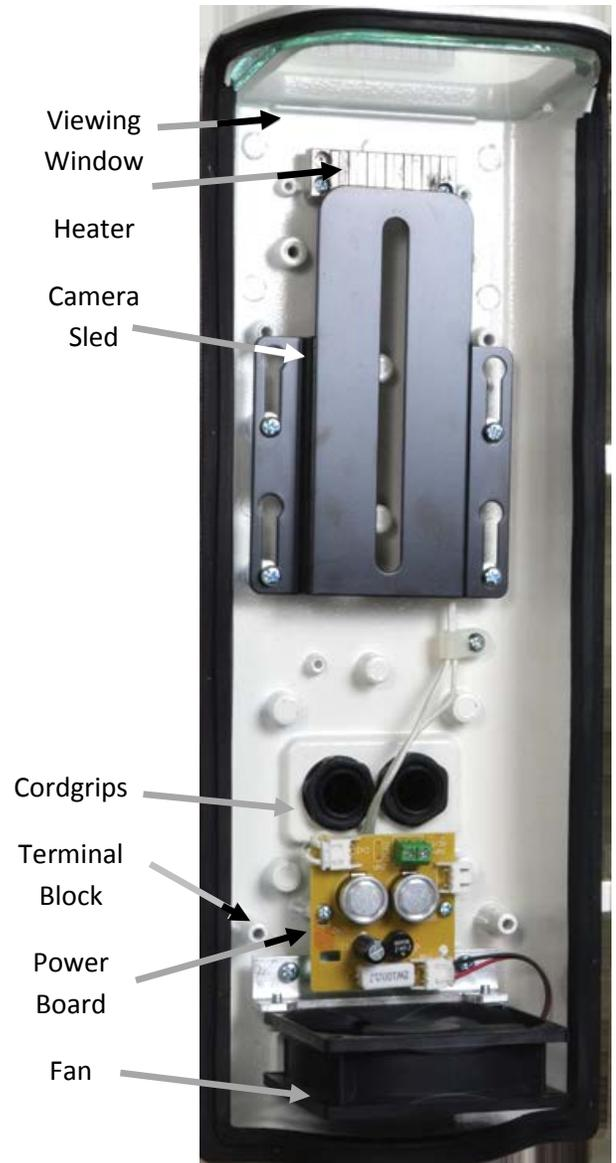

Figure 1 – Housing Interior
18. The interior of the housing is shown in Figure 1.
20. Install the terminal block from the hardware kit using the sheet metal screw. The terminal block should be installed in one of the holes marked "Terminal Block" in figure 1.